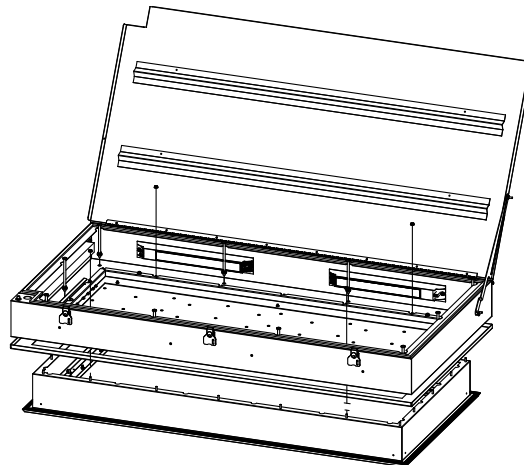

Figure 1
3. Remove (4) nuts that are securing the top housing to the lower housing and store the nuts in a safe place to be used to re-secure the housings. See Figure 1.